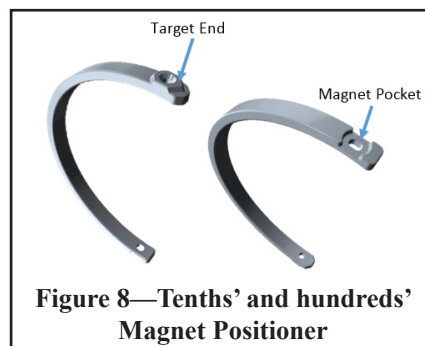
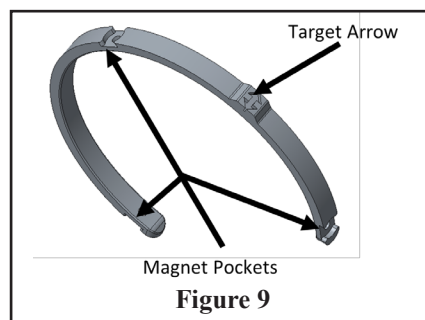

Figure 8—Tenths' and hundreds' Magnet Positioner
Figure 9
3. There are two magnet positioners. The hundreds' and tens' magnet positioner has two unique ends, see Figure 8. The first end is the target end that will point to the desired set point level, and the second end has a pocket for the magnet to set into. The ones' cm magnet positioner has three magnet pockets along with one target arrow, see Figure 9.